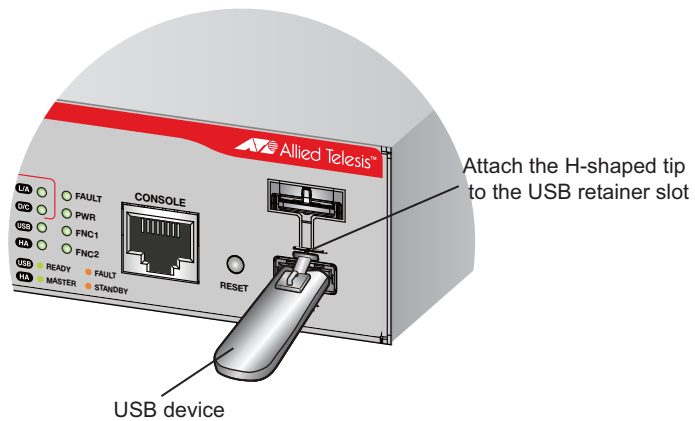

Figure 15. Attaching the USB retainer
2. Mount the USB device into the USB port and then attach the H-shaped tip of the USB retainer to the USB retainer slot as shown in Figure 15.